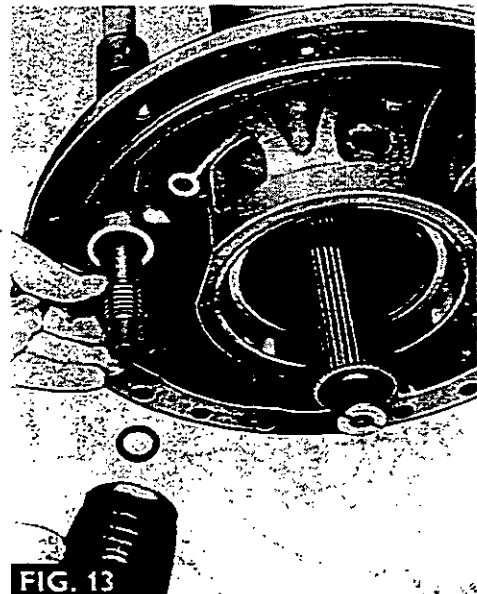

FIG. 13
1. Fig. 13. Fit a new bush, using tool MF 259A as shown.
2. Place the axle shaft, brake assembly and more shims than will be necessary in the trumpet housing, simultaneously locating the brake camshaft, and secure with three of the nuts (11) and spring washers, equi-spaced and tightened to a torque of 7,0 kg-m (55 lb-ft).
4. Remove the two screws (3) securing the brake drum (2) to the axle shaft (4) and remove the drum.